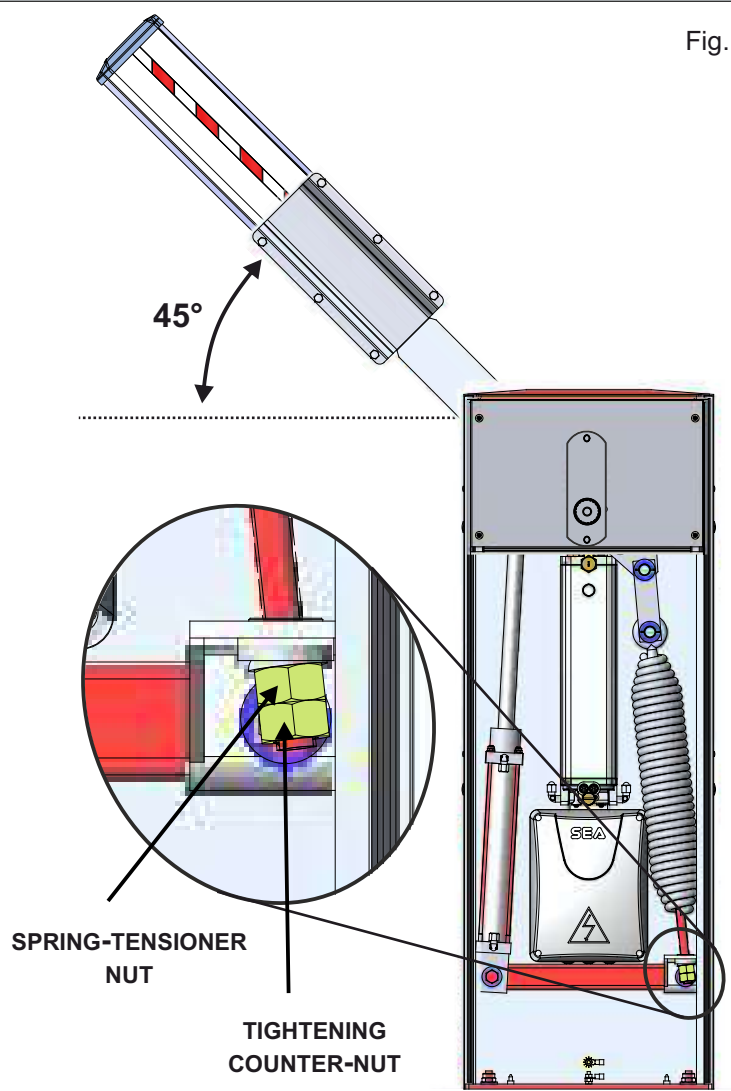

Fig. 14
- 7.3. Tighten or loosen the spring-tensioner nut until the spring counter-balances the weight of the arm placed at 45°; The optimal balancing position is when the arm stays in the position shown in Fig. 14